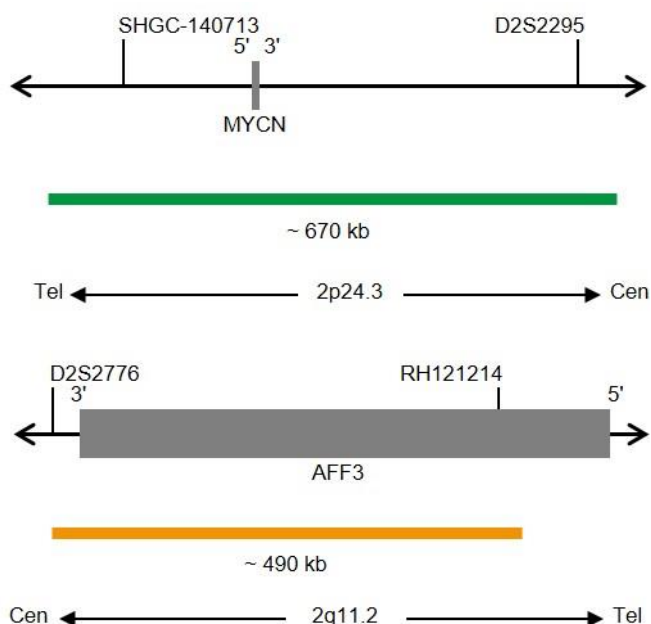

Fig. 1: Top: SPEC MYCN Probe map; Bottom: SPEC 2q11 Probe Map (not to scale)
- ZyGreen (excitation 503 nm/emission 528 nm) labeled polynucleotides (~10 ng/μl), which target sequences mapping in 2p24.3* (chr2:15,846,046-16,517,671) harboring the MYCN gene region (see Fig. 1).
- ZyOrange (excitation 547 nm/emission 572 nm) labeled polynucleotides (~4.5 ng/μl), which target sequences mapping in 2q11.2* (chr2:100,132,806-100,621,725) (see Fig. 1).